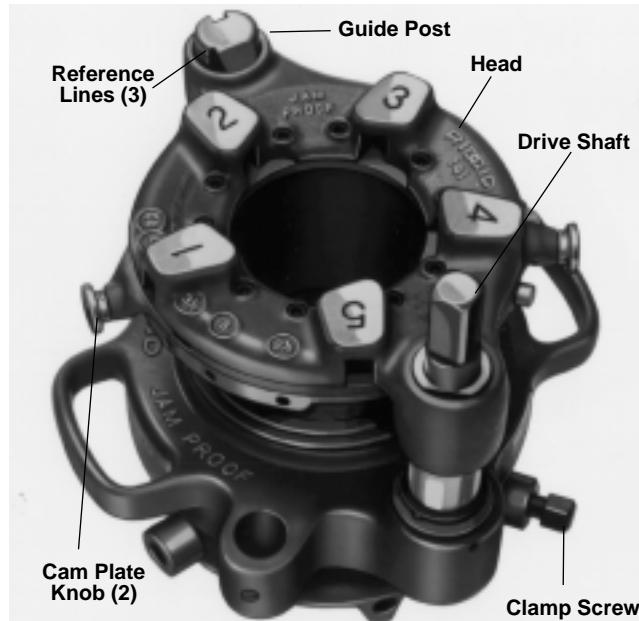

Figure 13 – No. 141 Geared Threader with Drive Shaft Up (No. 161 Threader Similar).
2. Pull knobs (*Figure 13*) of cam plate and rotate cam plate to desired pipe size marking on top of die head. Release knobs when locating pins drop into hole in selector plate.
Grasp workholder and turn square end of drive shaft or turn gear case by hand to respective reference lines on guide post (*Figure 13*).
2. Pull Knobs (*Figure 13*) and rotate cam plate to CD mark on top of die head.
8. Using socket wrench, tighten workholder clamp screw (*Figure 13*) securely.
9. Slip square socket of No. 840A Universal Drive Shaft over square end of threader drive shaft and tighten two (2) set screws.
141 and 161 – Step on foot switch and reverse threader one or two revolutions. Pull knobs (*Figure 13*) and rotate cam plate as far as it will go towards CD mark on head to disengage dies.
141 and 161 – Loosen jaw clamp screw (*Figure 13*) and turn workholder to OPEN position. Remove threader.